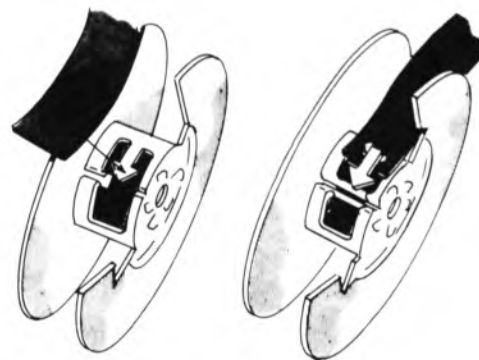

Figure 3-7 Attachment to Spool
(1) Gently pull the bail wire tab to move the bail wire away from the platen.
(2) If the ribbon spools are to be discarded, or if the ribbon is to be inverted, do the following before proceeding to Step 3:
(3) If your replacement ribbon has a new takeup spool preconnected to it, proceed to Step 4. If the spools are not pre-connected to the ribbon, do the following:
- Engage the hook at the end of the ribbon over the protruding arrow in the hub of the empty spool. If no hook is available, pierce the end of the ribbon over the point of the arrow (see Figure 3-7).